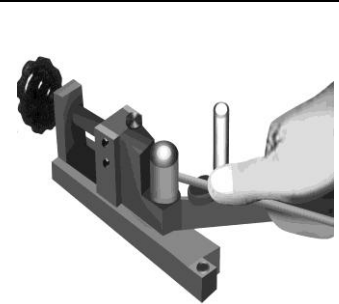

Figure 2
5. Pull the handle in a clockwise direction for a 1/4 turn. This should result in a 90 degree bend. If desired, you may insert the stop pin (#16) at appropriate hole for repetitive bends. Typically, this will be the hole at the front of the bender (furthest away from the Vise control knob), second from the right as shown in figure 2.